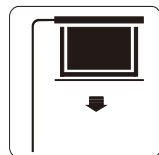

Figure 13
2. Turn the switch to position "=" to lower the screen; it will come down slowly. When it is all the way down, it will stop automatically (Figure 13).